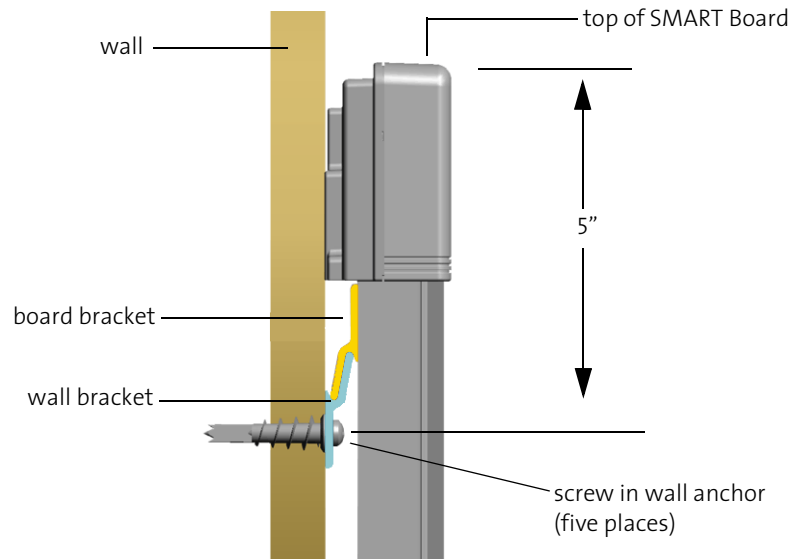

Figure 1-9 Position of SMART Board on wall
1. On the wall you selected to mount the SMART Board, mark the locations for the five wall-bracket screws five inches below where you want to position the top of the SMART Board (Figure 1-9). VTEL recommends placing the SMART Board 78 inches from the floor to the top of the SMART Board.